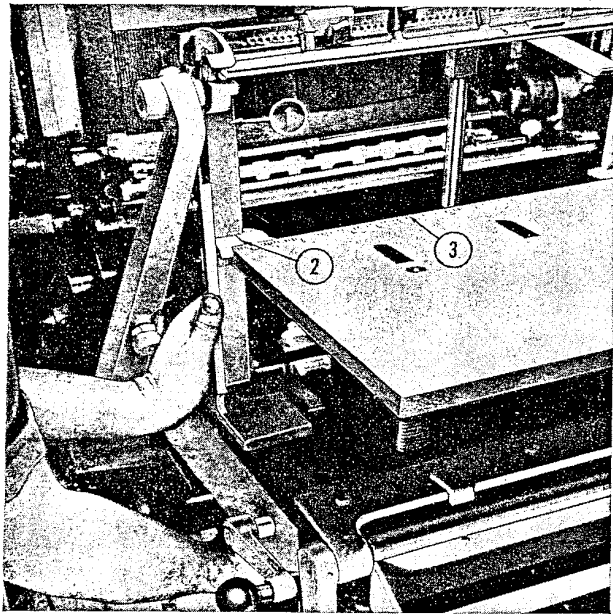

Figure 12—Positioning Front Pile Guides
(1) HOW TO POSITION FRONT PILE GUIDES. (See figure 12.)—The feeder table front pile guides (1) may be shifted along the front of the feeder table as desired. To shift the guides, loosen hand wheel (underside of feeder platform), and slide guides to desired position. The positioning of the guides is dependent upon side-guide setting and size of sheet to be fed. An "0" alignment marking (2) on the guides and a graduated scale (3) on the front edge of the feed pile table corresponding to the scale on the transfer table, are provided for accurate setting of the pile guides. Pile guide corner wires, attached to the pile guides, restrict the amount of sheet corner separation when being fluffed. These wires may be adjusted to suit weight of stock.